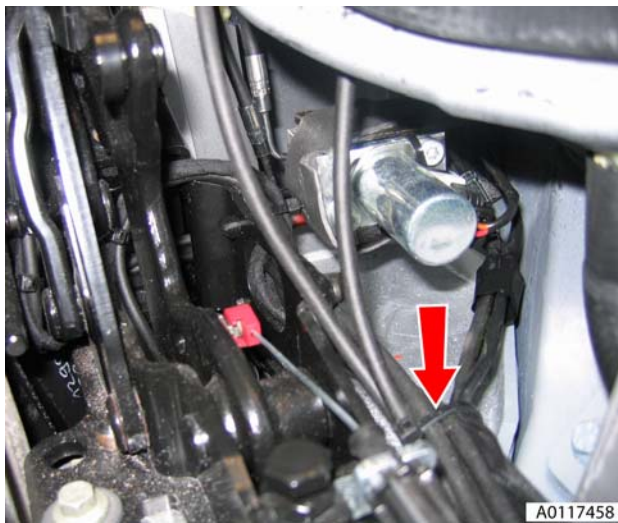

Figure 4
9. Cut cable tie securing valve to bracket (see Figure 4).